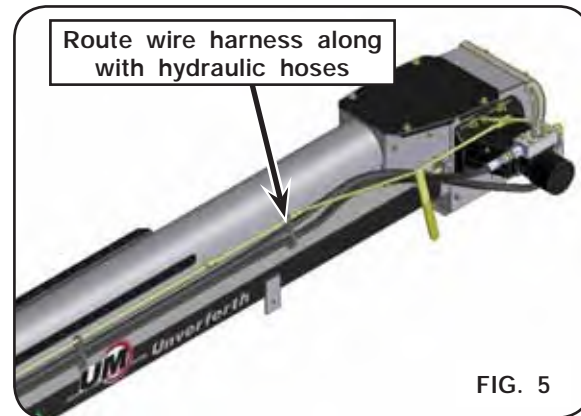
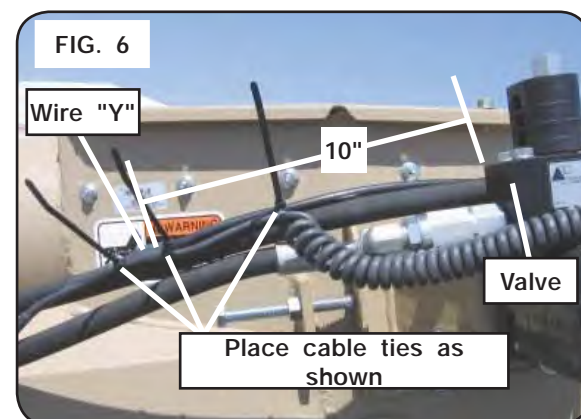

FIG. 5
FIG. 6
9. Starting at the top end of the conveyor, route wire harness along conveyor feeding along with the hydraulic hoses through each strap as shown in Fig. 5. Position the wire "Y" within 10" of the valve as shown in Fig. 6.
10. Place three cable ties as shown in Fig. 6, securing the harness to hydraulic hoses. Pull on tail end of cable tie so that harness is secure and then clip off tail.